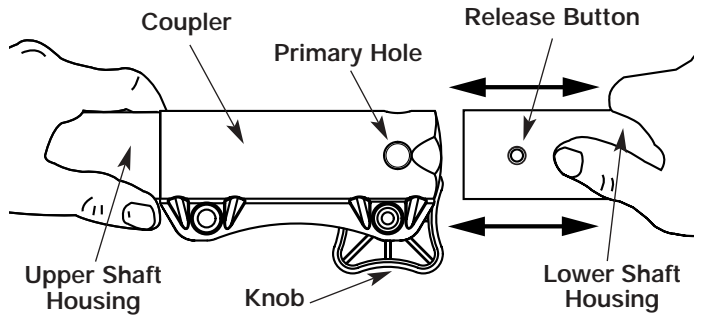

Fig. 2
3. While firmly holding the upper shaft housing, pull the add-on out of the coupler (Fig. 2).
**CAUTION:** Lock the release button in the primary hole (Fig. 2) and securely tighten the knob before operating this unit.
3. While firmly holding the add-on, push it straight into the coupler (Fig. 2).